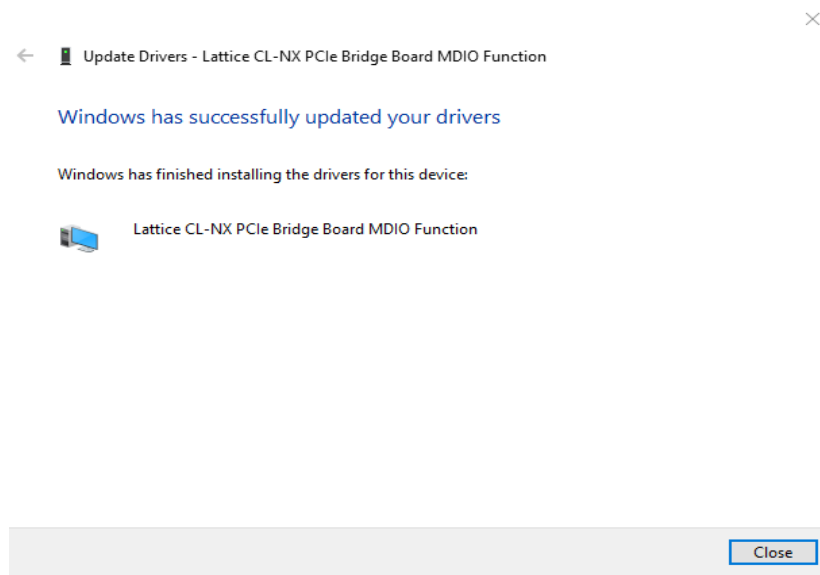
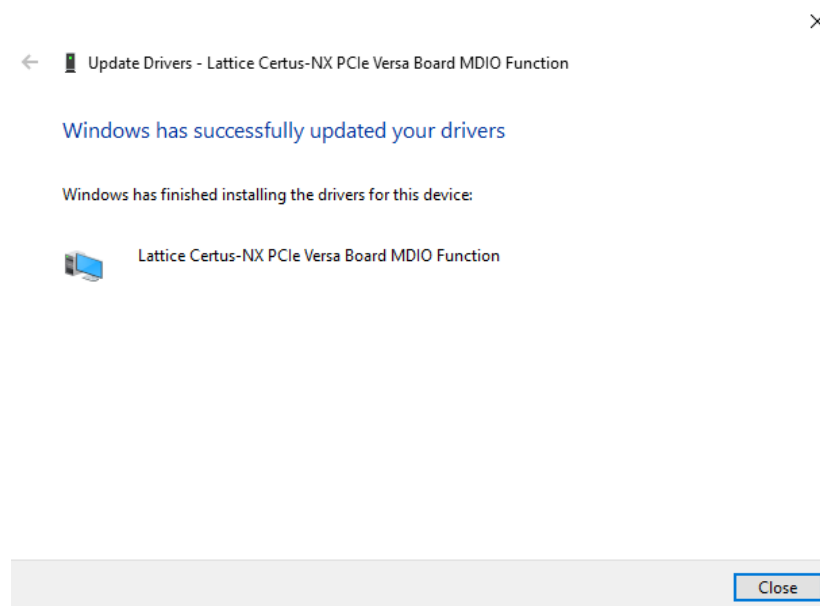
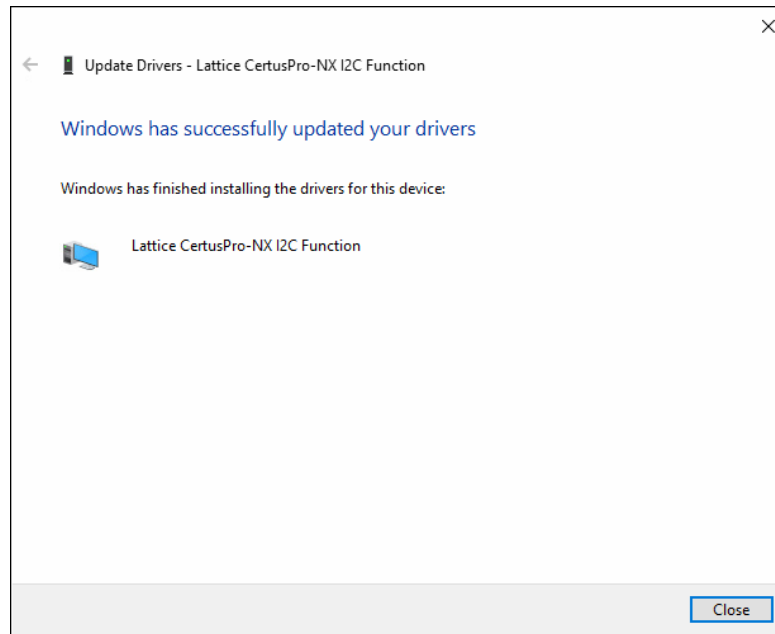

Figure 5.50. MDIO Driver Installation Status Message for the CrossLink-NX Device Board
Figure 5.51. MDIO Driver Installation Status Message for the Certus-NX Device Board
Figure 5.52. I2C Driver Installation Status Message for the CertusPro-NX Device Board
- If the driver is installed successfully, a message is displayed as shown in Figure 5.50 for the CrossLink-NX board, Figure 5.51 for the Certus-NX board, and Figure 5.52 for the CertusPro-NX device board.